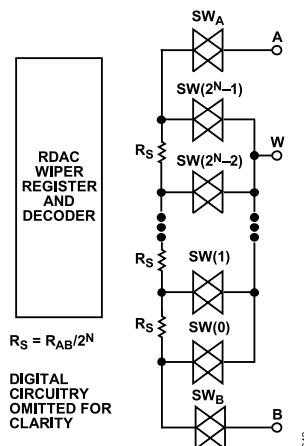

Figure 43. Equivalent RDAC Structure (Patent Pending)
The patent-pending RDAC contains multiple strings of equal resistor segments with an array of analog switches that act as the wiper connection. The number of positions is the resolution of the device. The AD5231 has 1024 connection points, allowing it to provide better than 0.1% settability resolution. Figure 43 shows an equivalent structure of the connections among the three terminals of the RDAC. The SW_A and SW_B are always on, while the switches SW(0) to SW(2^N-1) are on one at a time, depending on the resistance position decoded from the data bits. Because the switch is not ideal, there is a 15 Ω wiper resistance, R_W. Wiper resistance is a function of supply voltage and temperature. The lower the supply voltage or the higher the temperature, the higher the resulting wiper resistance. Users should be aware of the wiper resistance dynamics if accurate prediction of the output resistance is needed.
The 10-bit data-word in the RDAC latch is decoded to select one of the 1024 possible settings. The following discussion describes the calculation of resistance R_{WB} at different codes of a 10 kΩ part. For V_{DD} = 5 V, the wiper's first connection starts at Terminal B for data 0x000. R_{WB}(0) is 15 Ω because of the wiper resistance, and because it is independent of the nominal resistance. The second connection is the first tap point where R_{WB} (1) becomes 9.7 Ω + 15 Ω = 24.7 Ω for data 0x001. The third connection is the next tap point representing R_{WB} (2) = 19.4 Ω + 15 Ω = 34.4 Ω for data 0x002 and so on. Each LSB data value increase moves the wiper up the resistor ladder until the last tap point is reached at R_{WB} (1023) = 10,005 Ω. See Figure 43 for a simplified diagram of the equivalent RDAC circuit. When R_{WB} is used, Terminal A can be left floating or tied to the wiper.